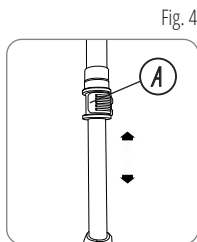

Fig. 4
- The overall height of the trimmer can be adjusted by loosening the height-adjust collar (A) by rotating it in the direction of the arrow shown in (Fig. 4).
- Move the upper housing straight up or down. When the desired height is achieved, tighten the collar by rotating it opposite of the direction shown in (Fig. 4).
- Maintain a minimum distance of 60 cm between the guard and your feet as shown in (Fig. 3D). To achieve this distance adjust the overall height of the trimmer as shown in (Fig. 4).